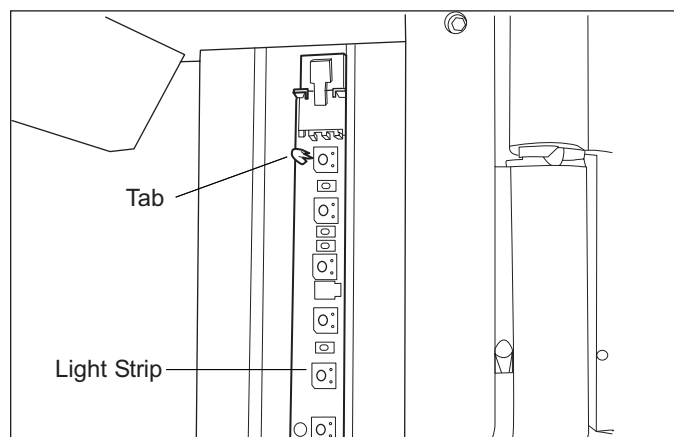

Figure 7-21. LED Light Strip Removal
4. Now, pull the light strip past the tabs (See Figure 7-21).